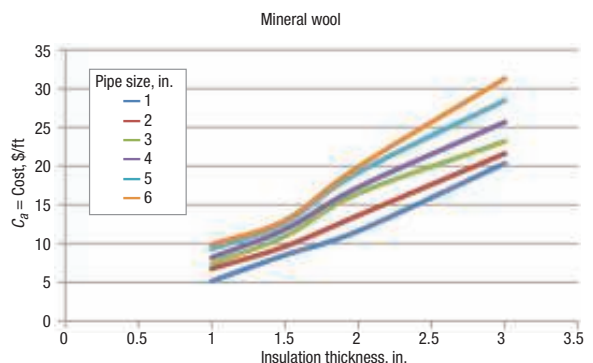

FIGURE 2. The cost of mineral wool depends on the pipe size. The data can be approximated by the function C_a (Table 2)
The next step is to find a function that describes the cost of insulation per foot per year. This function will be named np . For this, it is necessary to find the price of different insulation materials. For each insulation material, it was found that there are tables of prices for a specific thickness and nominal pipe size. Table 1 shows such information for mineral wool, for example. These data were plotted for each pipe size, as shown in Figure 2. The y-axis is the cost per foot, and the x-axis is the thickness of the insulation. In the context of the previous discussion, $x = r_2 - r_1$.
For the case of mineral wool, the plots of Figure 2 can be fit to linear equations, as shown in Table 2. These linear relationships can be generalized as the function C_a . Multiplying this function by the the cost of installation (assume 4% per year) plus the annuity, which accounts for the annual interest, i , for amortization over a period of n years, gives the general equation for insulation costs as follows:
*Least squares fit to data in Table 1 (Figure 2): $C_a = Ax - B$